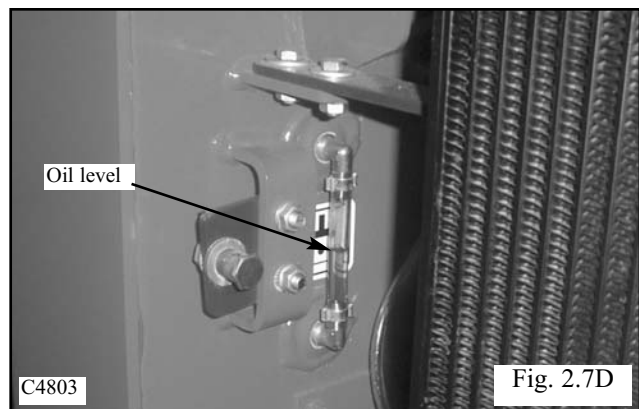

Fig. 2.7D
- 9 Check the fluid level in the hydraulic oil reservoir and replenish as required. (Fig. 2.7D)